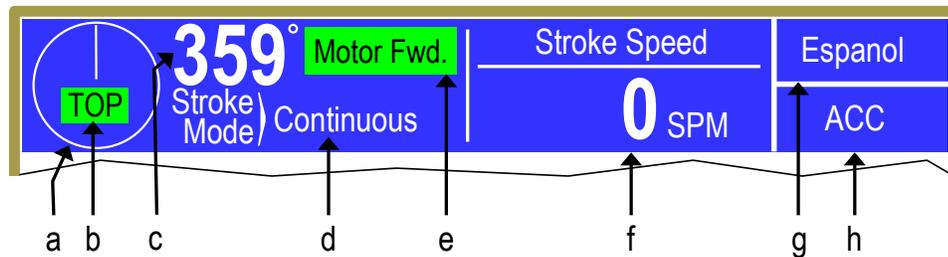

Figure 3: Operator Terminal Top Info Area
The top area of the operator terminal is used to display certain critical information and provide keys that are present regardless of what screen is being displayed. The areas are (refer to Figure 3):
- a) Graphical Display of Crankshaft Angle** For speeds below 70 SPM or so, this will show the crankshaft angle in either a “clock” format (this is the mode shown in Figure 3) or a “traveling dot” format. Press the screen inside the circle to switch between the formats (this can be done at any time, including while the press is in motion). Above 70 SPM, this will change to rotating arrows to indicate crankshaft motion.
- f) Programmable Display Area** This area can display a variety of information, based on user selection. Some examples items available include press speed (as shown in Figure 3), press control running status, press control reason for the last stop, part count, and distance to the bottom of the stroke. Press inside this area to cycle to the next available item. The operator terminal can also be configured to automatically show a particular item when the press control mode is switch from a setup mode to a production mode, and vice versa. See Section 4.3.1 for more information on configuring this area and the information items available.
Areas inside the white portion of the display are shown with a blue border if that area can be selected. For example, pressing the blue bordered jobs area or the blue bordered counters area will take you to screens related to jobs or counters, respectively. Areas usually displayed along the right side and bottom of the display provide softkeys which may be selected by pressing the field. For example, pressing the “Die Protection” bordered area in Figure 3 will select the die protection screen.